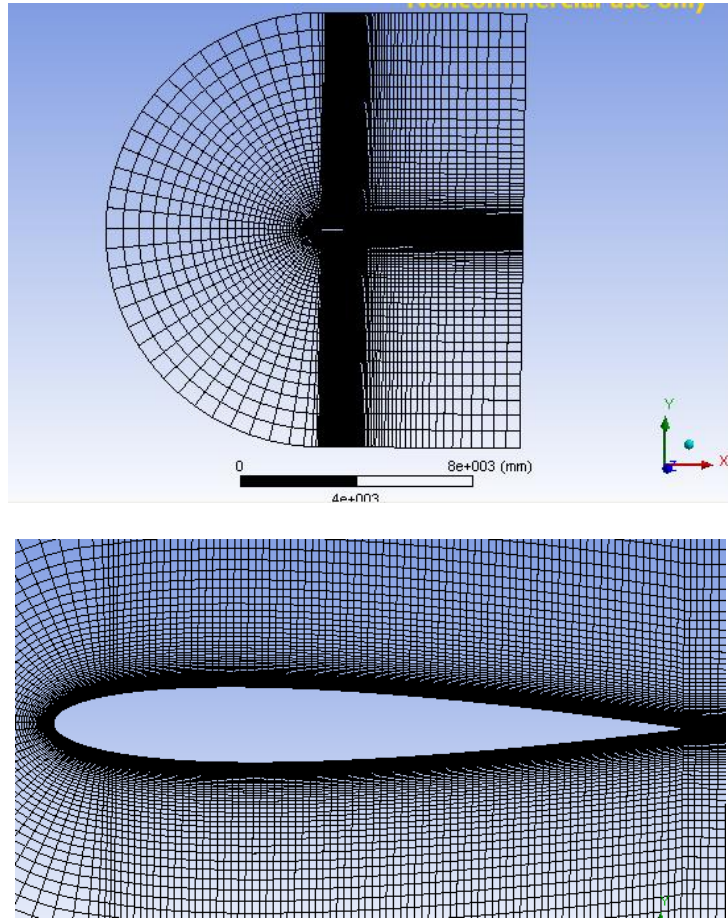

Fig. 6 Final block-structured mesh
4. Right click on the **Mesh**, select **Mapped Mesh Meshing**. Add all faces under **Geometry**. Select **Quadrilaterals** under **Method**. Click on Generate button. Fig. 6 shows the view of the computational mesh.